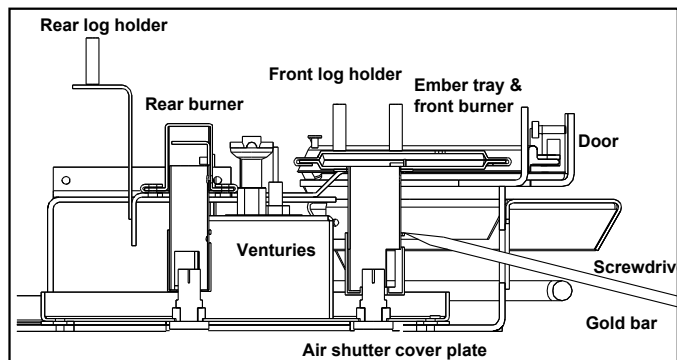

Figure 9: Venturi Adjustment.
- There is a separate venturies for each burner, see Figure 9.